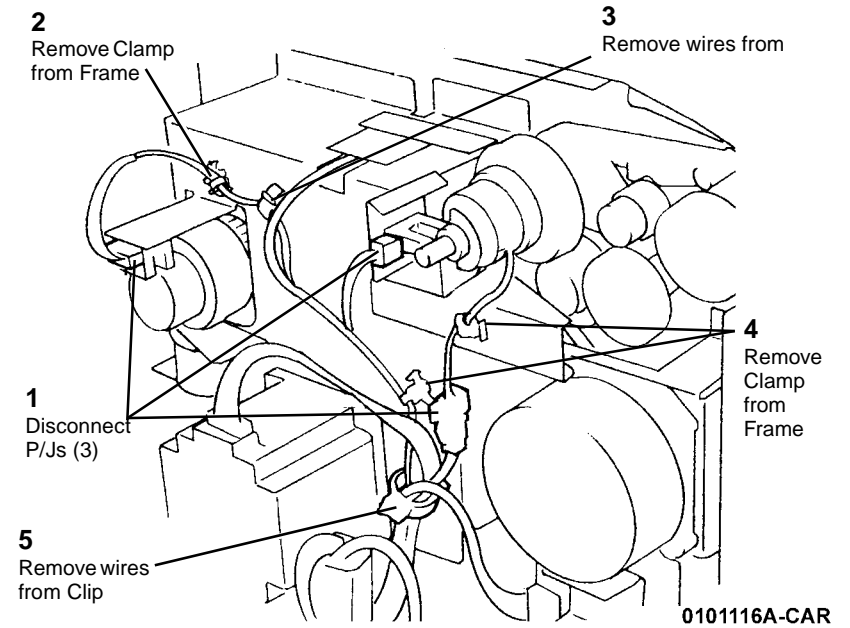

Figure 2 Releasing Harnesses
3. Release Harnesses (Figure 2).